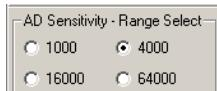

FIGURE 13. SENSITIVITY RANGE SELECTION
- Sensitivity-Range Select** (Figure 13) allows us to choose the sensitivity of the sensor based on external conditions/object detection. For example, a really bright object would require a higher range (i.e. 64000), versus a dark object, which would require a low range (i.e. 1000). Higher range reduces photo detector sensitivity